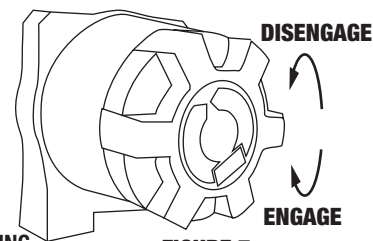

FIGURE 7
Turn clutch handle to the disengage position shown on decal (FIGURE 7). **NEVER RELEASE FREE-SPOOL CLUTCH WHEN THERE IS A LOAD ON THE WINCH. DO NOT FORCE THE HANDLE.** Release tension on the clutch by winching out some of the wire rope. Release the clutch and pull out the wire rope and secure to anchor or load. Check that there are at least five (5) wraps of wire rope left on the drum. Re-engage the drum by returning the clutch handle to the engaged position. (FIGURE 7)